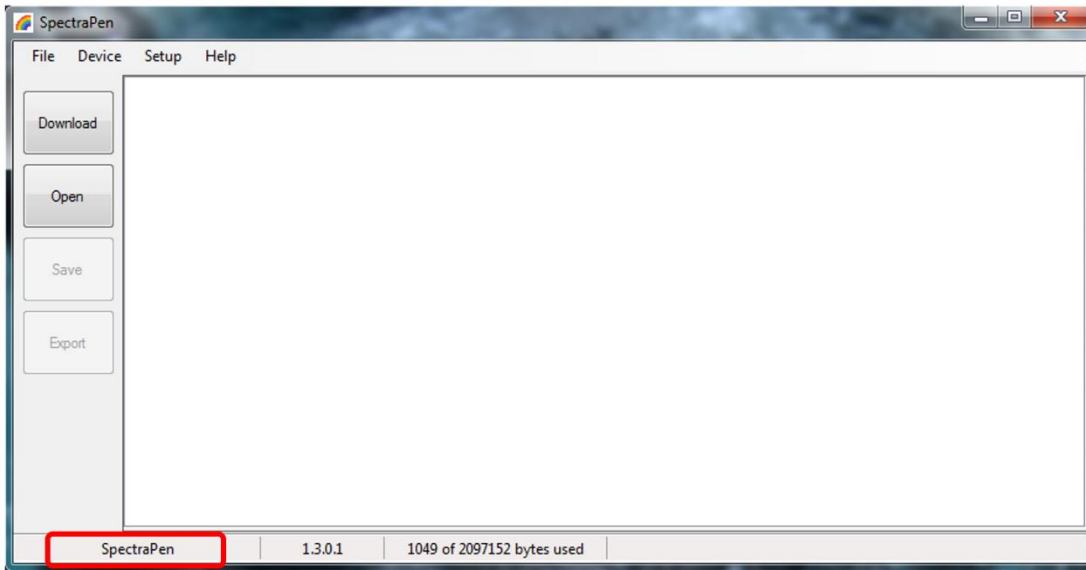
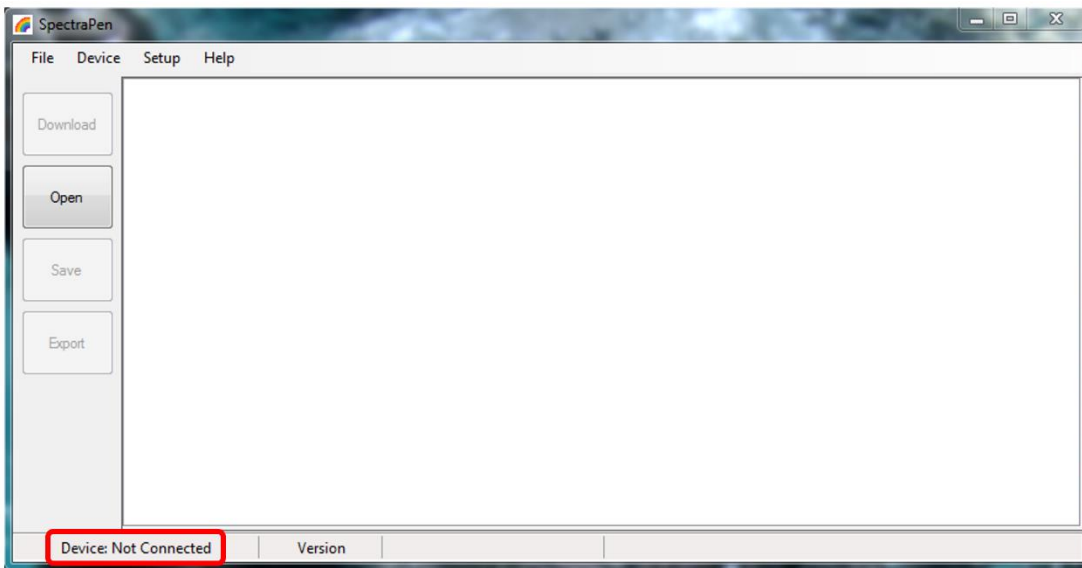

Fig. 23 SpectraPen connected.
Fig. 24 SpectraPen not connected.
6. When the device is properly connected the left bottom corner of the SW window will display "SpectraPen" (Fig. 23). Otherwise notification "Device: Not Connected" is displayed (Fig. 24).